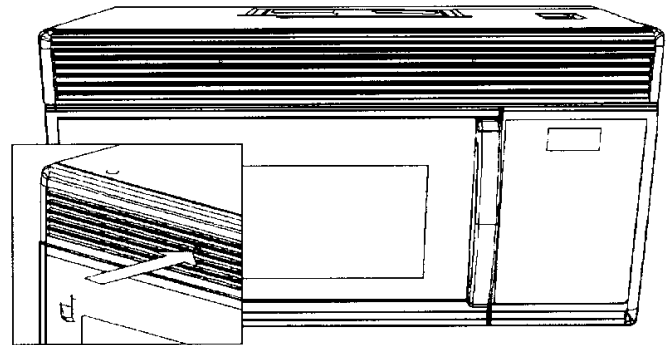

FIGURE 3
2. Remove the top grill by taking out the 2 screws that hold it in place. (See Figure 3)